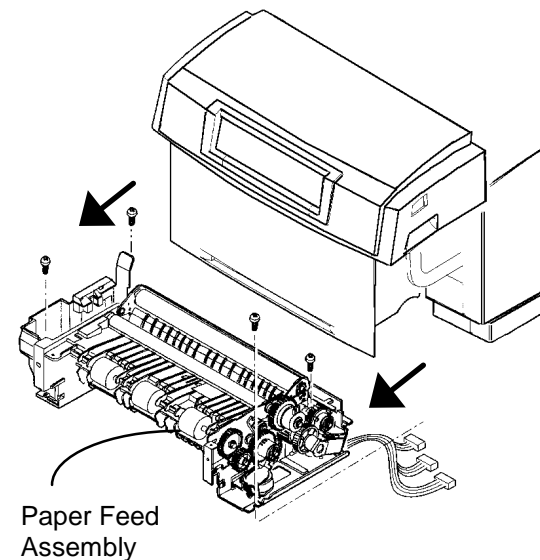

Figure 3. Removing the Paper Feed Assembly
4. (Figure 3): Remove the four screws and disconnect the connectors (CN101, 102, 105).